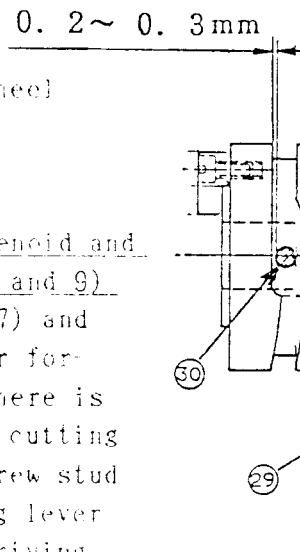

Fig.8
2. To set cutting starting solenoid and bracket in position. (Figs.8 and 9)